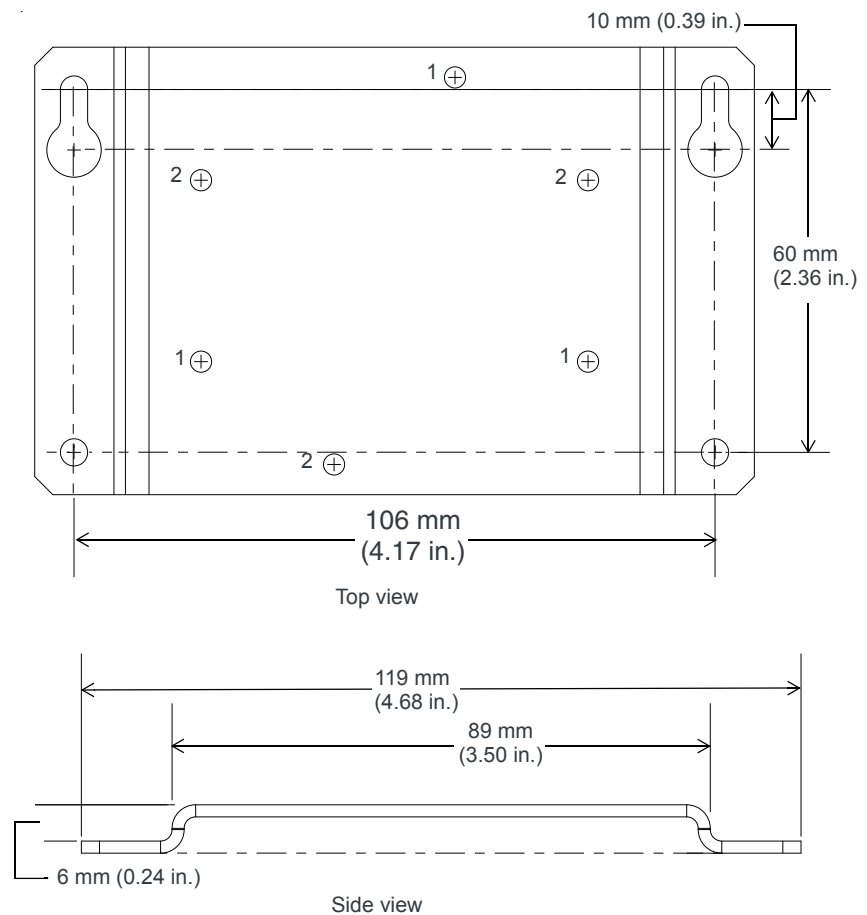

Figure 3-9: LS300 Mounting Bracket for flat surfaces
1. Line up the LS300 with either set 1 or set 2 holes, depending on the desired orientation. (See Figure 3-9.)